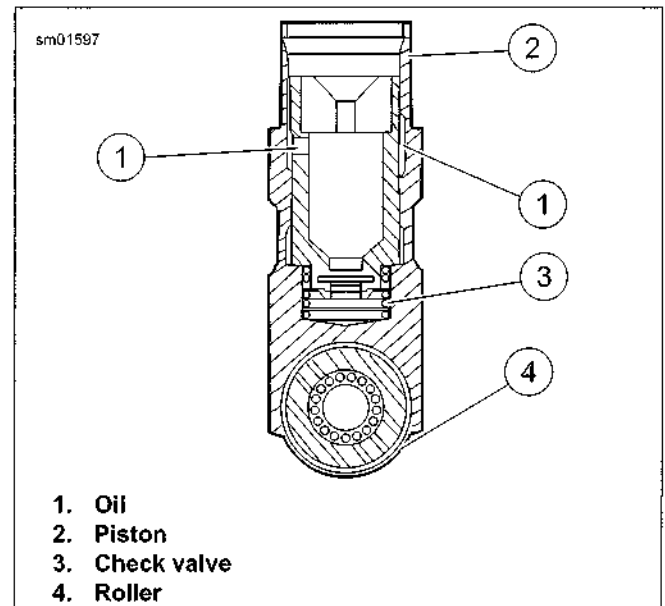

Figure 3-128. Tappet Assembly
See Figure 3-128. The tappet and roller (4), under compression force from valve spring, follow the surface of the revolving cam. The up-and-down motion is transmitted to the valve by the pushrod and rocker arm. The tappet contains a piston (2) and cylinder. The check valve (3) allows the unit to fill with engine oil (1) reducing clearance in the valve train. The unit automatically compensates for heat expansion to maintain minimal clearances between the cam and the pushrod.